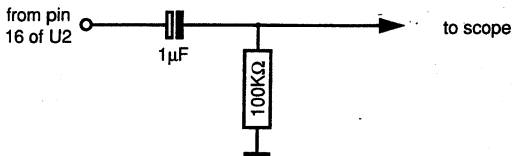

Fig. 7.3
- Connect an oscilloscope at pin 16 of U2 via a matching circuit as shown in Fig. 7.3